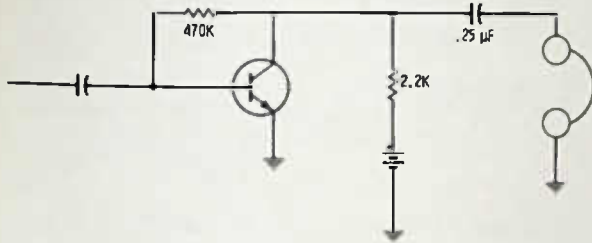

Fig. A-6.
16. B. Since the battery current flows through the headphones going to the collector, the circuit is said to be series fed, in other words, the same current flows through the headphones as through the transistor collector circuit. Fig. A-6 shows the circuit with the earphones shunt or parallel fed.